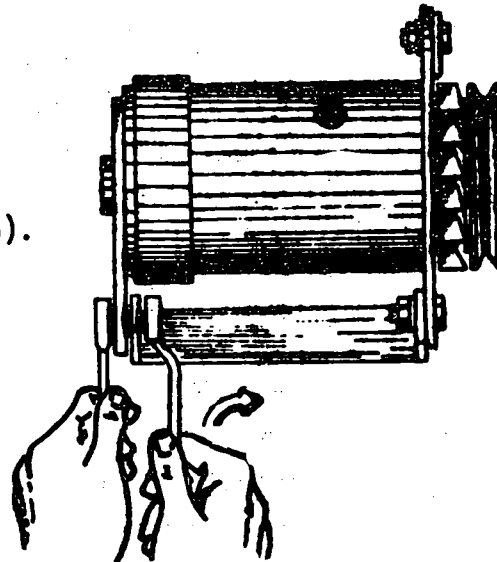

Fig. 6
- c) Loosen the securing bolts of the generator and release tension from the belt (Fig. 6).